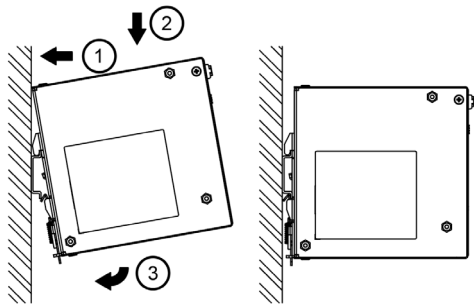

Fig. 3.1 Mounting
1. Tilt the unit upwards and insert it onto the DIN rail. Snap on the DIN rail as shown in Fig. 3.1.